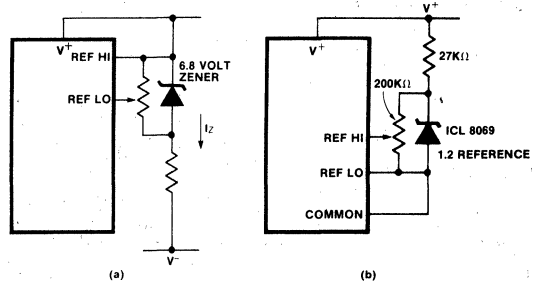

Figure 4: Using an External Reference
The limitations of the on-chip reference should also be recognized, however. The reference temperature coefficient (TC) can cause some degradation in performance. Temperature changes of 2 to 8 $^{\circ}\text{C}$, typical for instruments, can give a scale factor error of a count or more. Also the common mode voltage will have a poor voltage coefficient when the total supply voltage is less than that which will cause the zener to regulate (<7V). These problems are eliminated if an external reference is used, as shown in Figure 4.